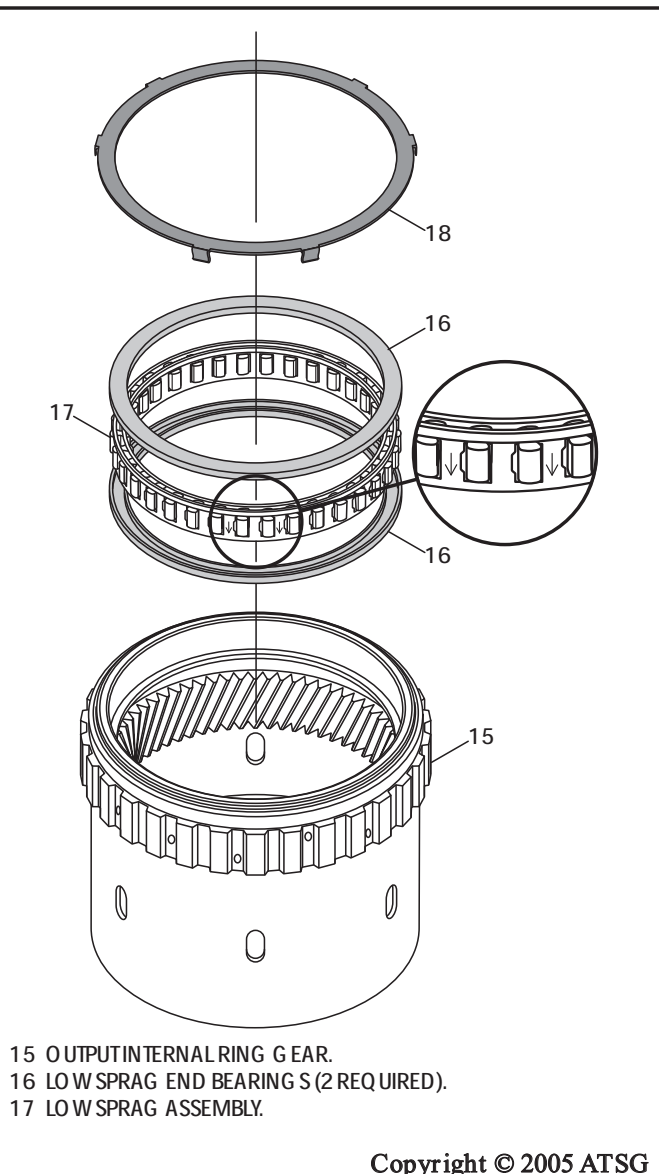

Figure 97
4. Place output internal ring gear on a flat work surface, as shown in Figure 97.
5. Install one low sprag end bearing in direction shown in Figure 97, until fully seated.
6. Install the low sprag assembly into the ring gear so that the arrows are pointing down, as shown in Figure 97.
7. Install the second low sprag end bearing in the direction shown in Figure 97, until fully seated.
8. Install the low sprag assembly retainer by snapping it over the lip on the ring gear, as shown in Figure 97.